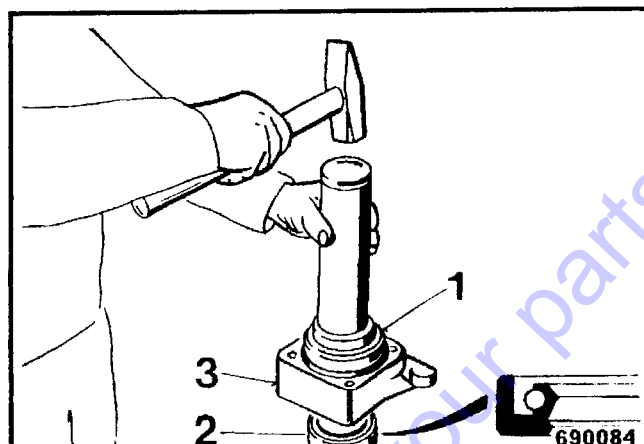

Fig. 5
- Drive the bearing 1 (Fig. 5) into the bearing flange (3).
- Cover the seal ring (2) with oil and lay it onto the bearing flange.